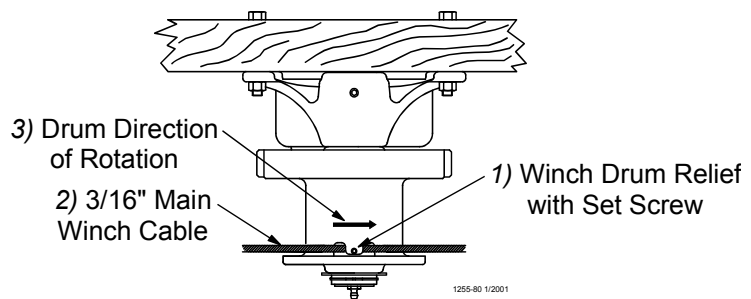

Figure 11. Attaching the Cable to the Power Winch
4. Route the cable through the Winch Drum Relief located near the bottom of the drum. Tighten the set screw to anchor the cable to the drum. See **Figure 11**.